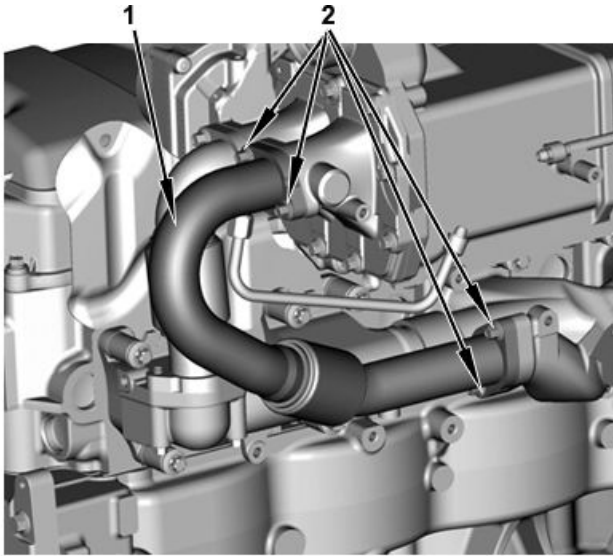

Figure 14. EGR Inlet Tube (Outside).
18. Remove EGR inlet tube (Figure 14, Item 1), and remove four heat-resistant bolts and two gaskets (Figure 14, Item 2). Discard bolts and gaskets.